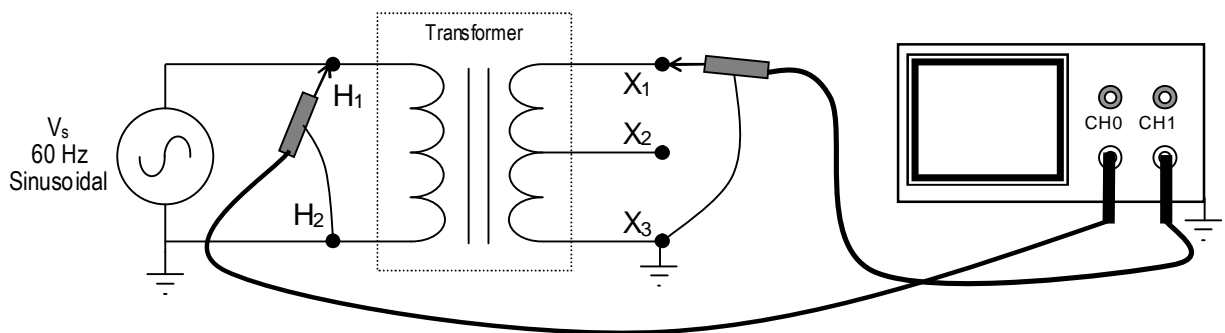

Figure 8.3: Testing Voltage Relationships
3. **Measured Turns Ratio:** Connect the NI-ELVIS's function generator to the primary winding of the transformer, as illustrated in Figure 8.3. Select a sine wave output and set the generator's voltage to $3 V_{PP}$. Set the frequency at 60 Hz, since that is the operating frequency for which this transformer is designed.
- a. Connect the NI-ELVIS oscilloscope across the transformer as indicated in Figure 8.3: CHANNEL 0 across the transformer's primary (H_1 – H_2) with H_2 grounded; and CHANNEL 1 across the transformer's secondary (X_1 – X_3) with X_3 grounded.
- V_{PP} across the secondary (X_1 to X_3) (on CH1, as illustrated in Figure 8.3)
- V_{PP} from the center tap (CT) to one side of the secondary (X_1 to X_2). (Move the CH1 ground lead to X_2 to make the measurement.)
- V_{PP} from the center tap (CT) to the other side of the secondary (X_2 to X_3) (Move the CH1 leads to X_2 and X_3 to make the measurement.)
- a. Connect the NI-ELVIS oscilloscope across the transformer, as indicated in Figure 8.3: CHANNEL 0 across the transformer's primary (H_1 – H_2) with H_2 grounded; and CHANNEL 1 across the transformer's secondary (X_1 – X_3) with X_3 grounded.